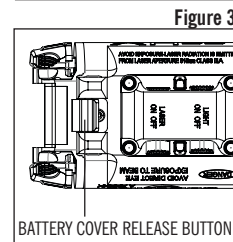

Figure 3
4. To replace batteries, depress latch to open battery cover (Figure 3) and remove and properly dispose of depleted batteries.